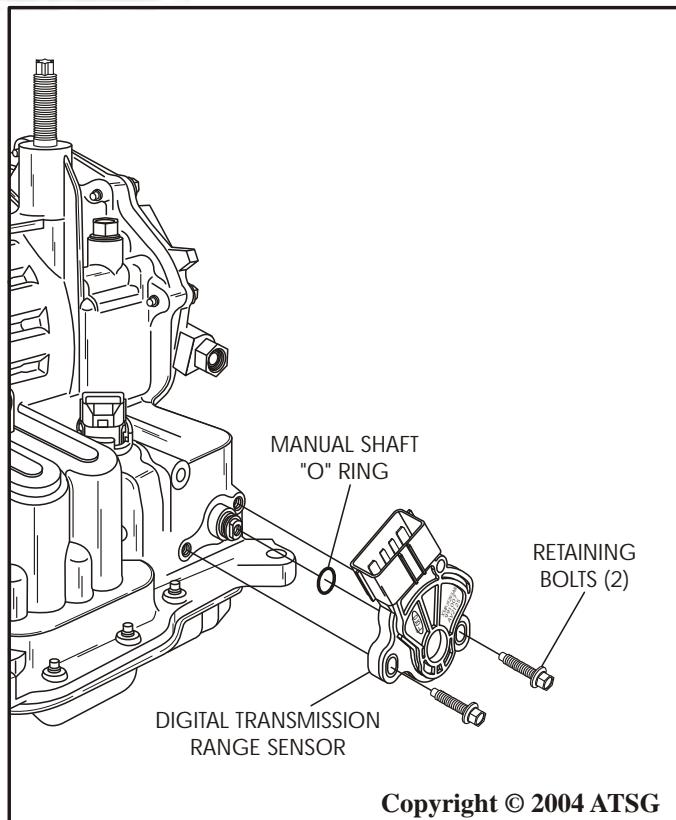

Figure 191
5. Loosely install the transaxle range sensor with the two bolts, as shown in Figure 191.
Note: Ensure that "O" ring is in place on manual shaft (See Figure 191).